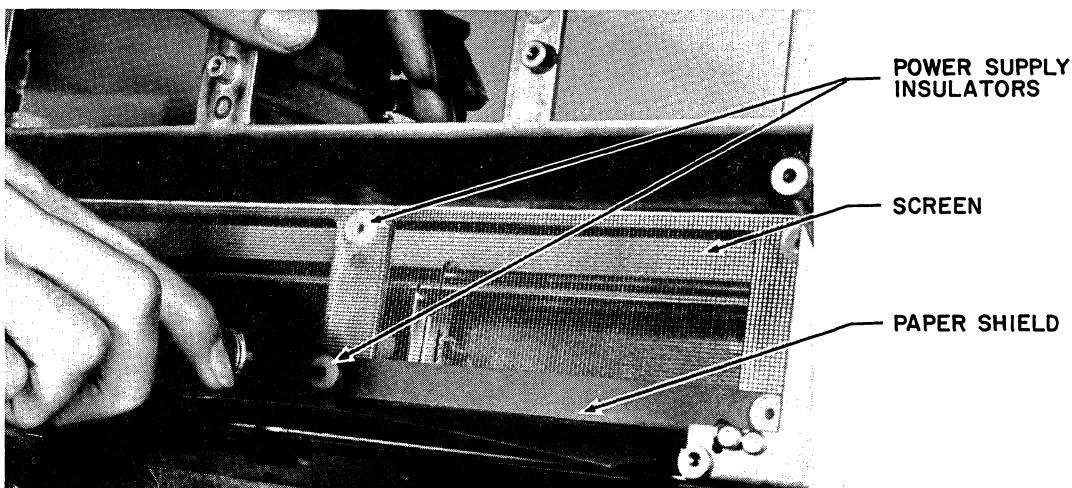
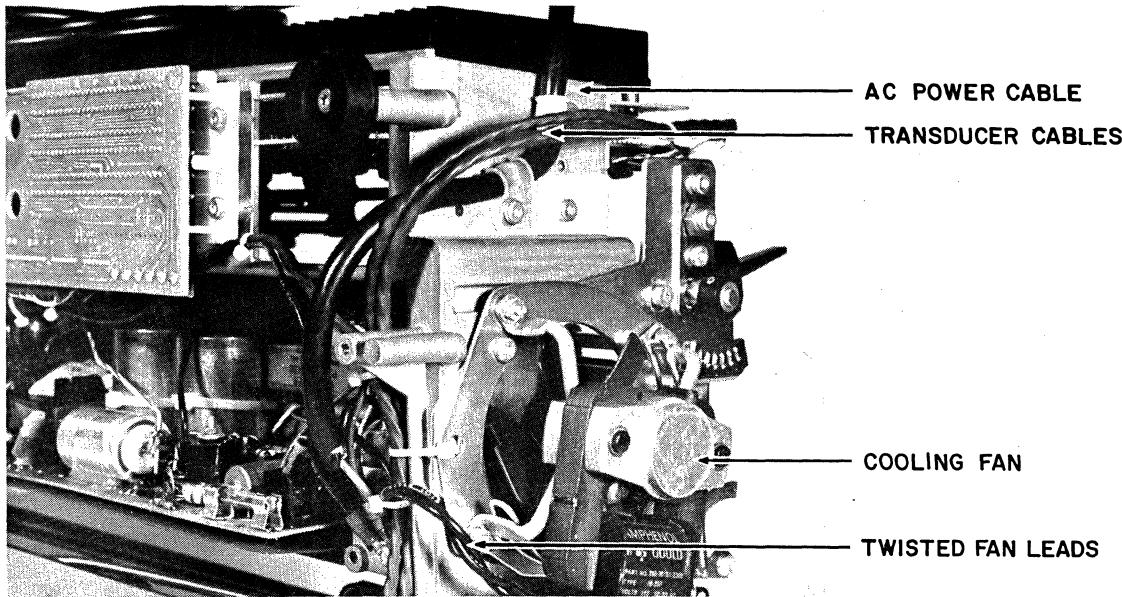

Figure 5-56 SCREEN AND SHIELD INSTALLATION
Figure 5-57 AC CABLE AND FAN INSTALLATION
6. Study Figure 5-56. Locate and install the screen, paper shield insulator, and six (6) power supply insulators as follows (all directions of up, down, right or left, etc. are as you view it):
- (c). Bend the paper shield insulator where scored, and install it along the bottom of the cavity using the remaining three power supply insulators, inserted as above. Figure 5-56 shows the center of these three insulators being installed.
7. Slide the power supply into place in the cavity, circuit board down and interconnecting power cable to the left. Fasten the supply into place by driving the six (6) 6-32 x 5/8" screws in through the #6 flat washers, the power supply insulators and into threaded holes in the power supply frame. Tighten these screws down to deform the tips of the insulators and spread them out under the washers. Be careful not to overtighten these screws which will cause the insulators to break up.
12. Study Figure 5-57. Install and connect the ac power cable as follows: